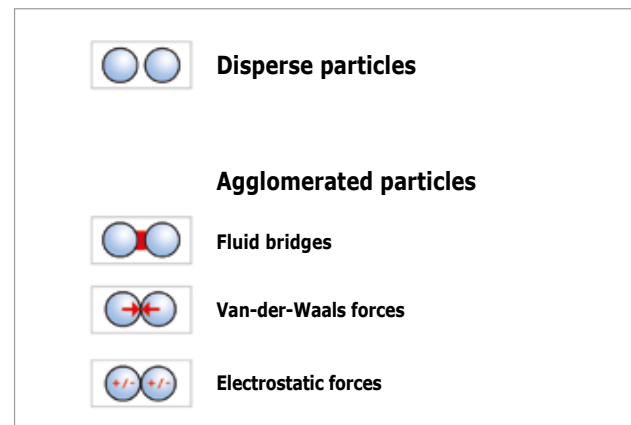

Fig. 9: Adhesive forces among particles which may affect the sieving result
**Reciprocal effects between particles have a decisive influence on the „sieveability“ of the fines. Examples for these are intermolecular Van der Waals forces (dipole-dipole interaction), fluid bridges in samples with residual moisture or frictional effects caused by electrostatic charge (fig. 9). Adhesive forces cause agglomeration of the particles.**